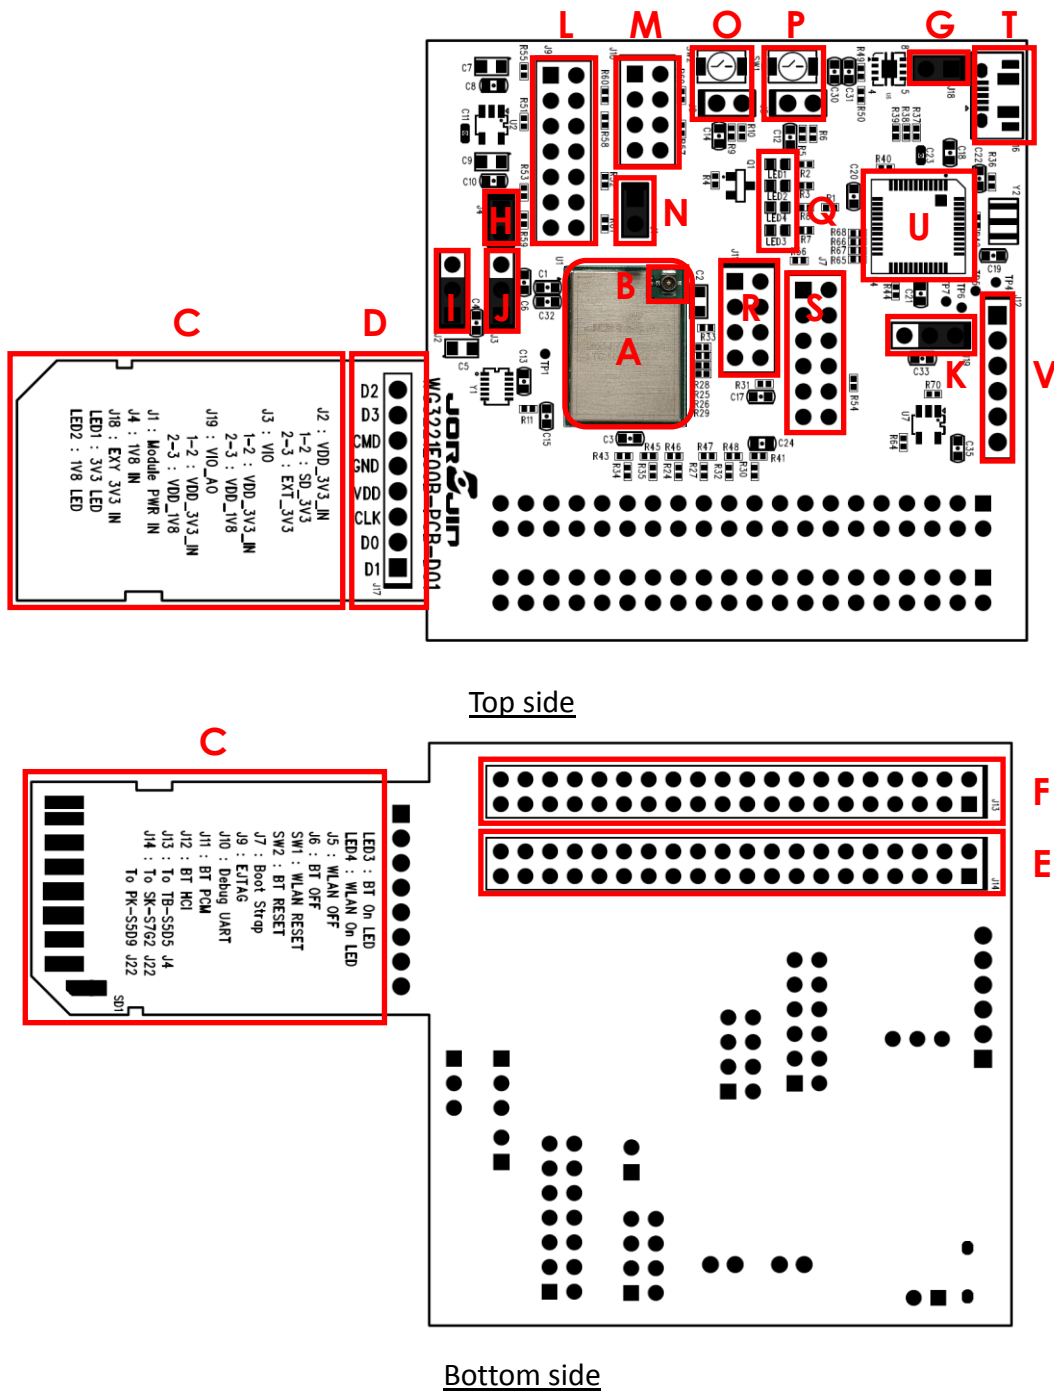

Figure 2-1. WG3221E00 board Components
- The 3.3V power source of module select by J2 (Figure 2-1. Region I) :
- SD_3V3 : SD1 (Figure 2-1. Region C) 、 J13 (Figure 2-1. Region F) or J14 (Figure 2-1. Region E)
- External_3V3 (via the 5V to 3.3V LDO) : J18 (Figure 2-1. Region G)
- The 1.8V power source (via the 3.3V to 1.8V LDO) : (Figure 2-1. Region H).
- J3 sets the VIO power level. (Figure 2-1. Region J)
- J19 sets the VIO_A0 power level. (Figure 2-1. Region K)
The host CPU can be connected to HCI interface through the J12 (Figure 2-1. Region W). When the J12 is connected to host CPU, the R65,R66,R67,R68 must be removed.
The HCI UART can be also connected through USB –J16 (Figure 2-1. Region T). When the J16 is connected to USB host, the R65,R66,R67,R68 must be installed.
The BT PCM signals are connected to J11 (Figure 2-1. Region R).
There are 4 LEDs (Figure 2-1. Region Q) indicate the board status.
The board has two buttons to reset the WLAN and BT function (Figure 2-1. Region O and P). The board also has two jumpers to turn off the WLAN and BT function.